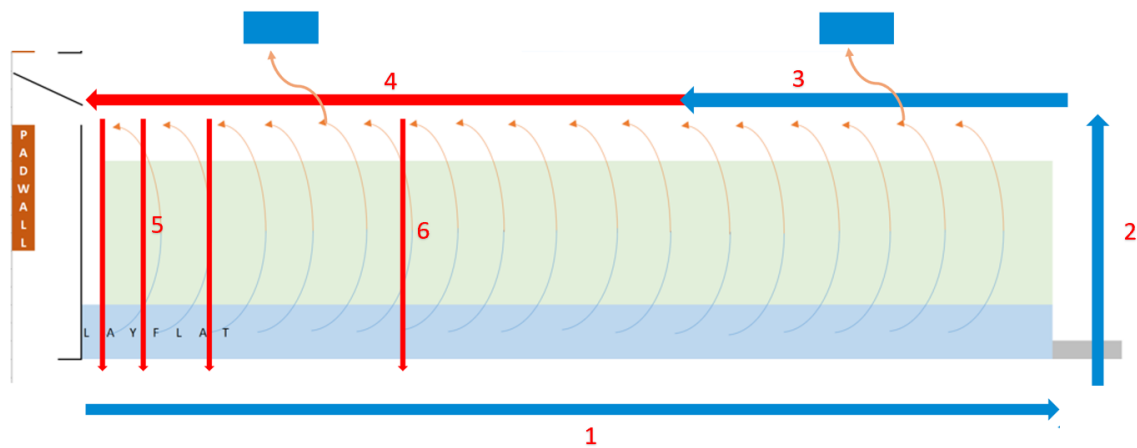

Fig 2 Momentum; Unwanted airflow in the glasshouse.
In figure 2, a side view is portrayed. The blue arrow at the bottom (1) shows the air current resulting from the air leaving the air hose under a slight angle. This is an unwelcome movement as it disturbs the upwards air movement of the cold air, which is the way the air is designed to move.